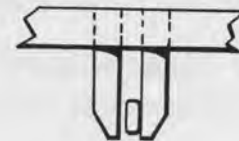

FIG. 6
3. Touching inside pin. (Fig. 6.)